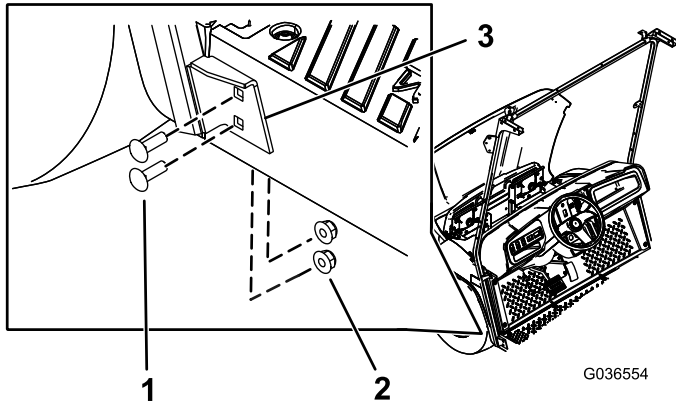

Figure 6
5. Secure the lower bracket of the windshield support to the left side of the machine using 4 carriage bolts (5/16 x 1 inch) and 4 flange nuts (5/16 inch) in the holes you drilled in step 2 (Figure 6).